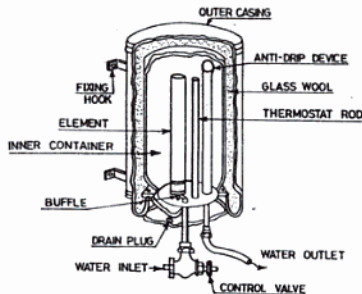

Fig. 5.20 Non-pressure type water heater
**Non-pressure Type Water Heater** Figure 5.20 shows a non-pressure type water heater. It is used at places where hot water is required at one service point only.
It has only one outlet for water without a stop cock. The water is controlled only from inlet side by a valve as shown in Fig. 5.20. It consists of a double-walled chamber. The space between the two chambers is filled with a heat insulating material like glass wool or cork. The heating chamber generally consists of tinned copper and the outer cover-